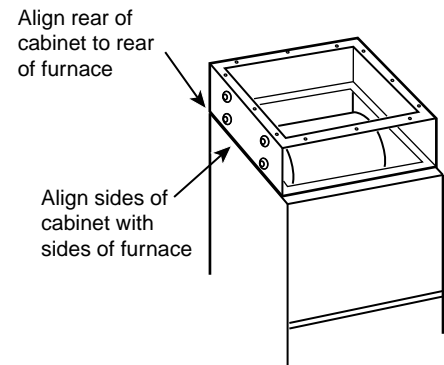

Figure 7. Installation on Bottom of Furnace
2. Position the furnace on a protective pad on the floor with the bottom of the furnace in the up position (see Fig. 7).